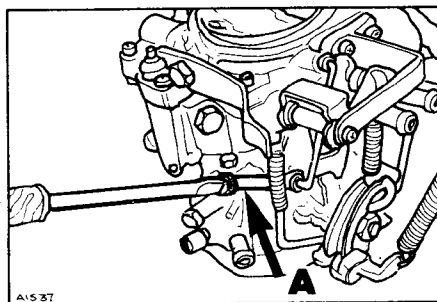

Fig. 2 Idle speed screw
- If outside specified limit, adjust with idle speed screw (A, Fig. 2).